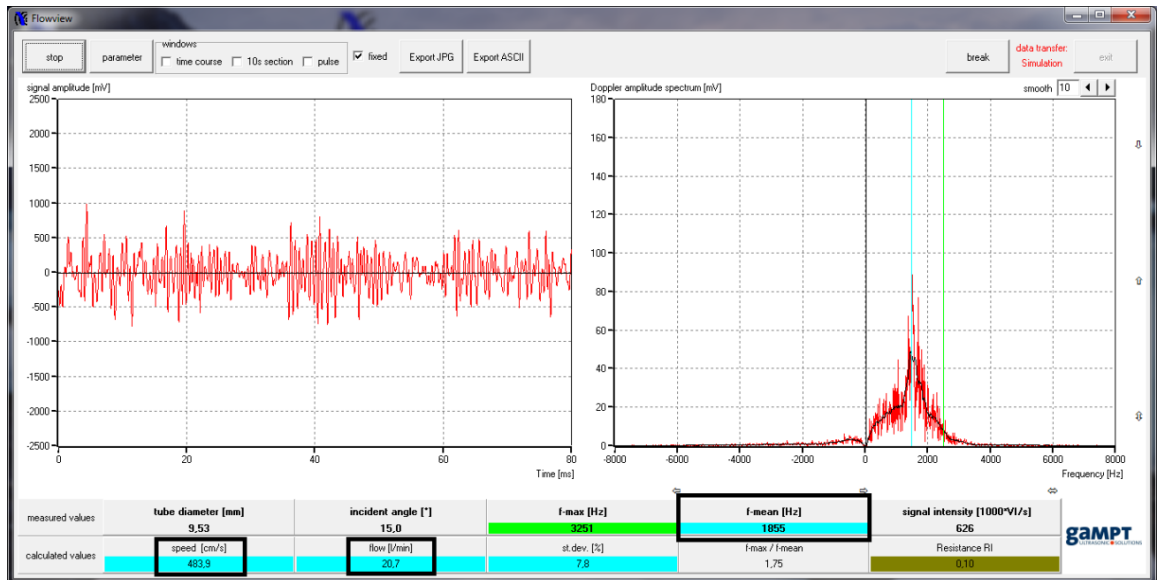

Figure 6. Main window of the FlowView programme.
8. Look at the spectrum and measure the average frequency shift Δf (parameter “f-mean” in the FlowView programme window, figure 6).
9. Knowing the frequency shift Δf , calculate the flow speed v using Eq. (2), and compare it with the values obtained in the experiment (parameter “Speed,” figure 6).